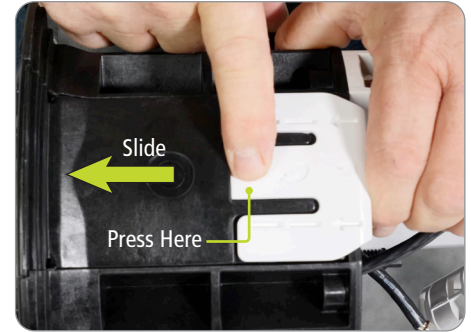

Figure 7
1. Confirm gel compression screw is not engaged. Then depress sealing wedge latch and slide fully-loosened wedge cover toward the base. (Figure 7)